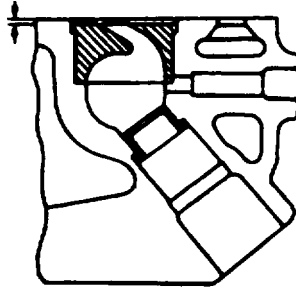

FIGURE 3-65. Hot Plug Depression
- (1) Clean cylinder head lower face, using care not to damage hot plug surfaces, refer to FIGURE 3-65.
- (2) Use a straight edge and feeler gage to measure hot plug depression in a straight line from No. 1 to No. 4 hot plug.
- (3) If measured value exceeds 0.0008 in. (0.02 mm), replace hot plugs.